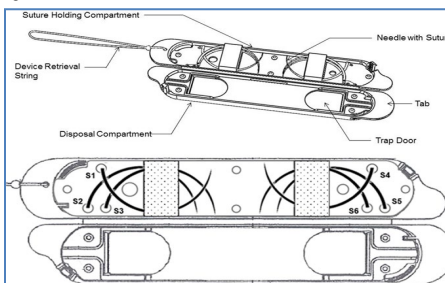

Figure 2 - Views of StitchKit Device when it is open, illustrating key parts and symbols (S1, S2, etc.) on suture exit holes that identify each suture.
- 5.1. disposal compartment via the trap door. It is typically easier to place the blunt aspect of the needle into the compartment first (Figure 2).
Figure 2 shows two views of the StitchKit® device in its open configuration. In the top view key features such as the Disposal Compartment, Retrieval String, and Tabs at the ends of the device are highlighted.
The lower view in Figure 2 illustrates how each suture exits the device through a unique Exit Hole labeled to identify the suture types. In an actual device the generic labels S1 through S6 are replaced with short symbols identifying the actual sutures within the device.